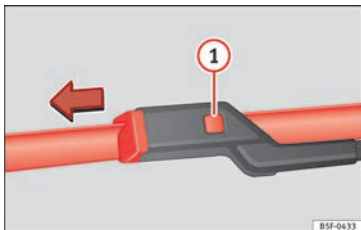

Fig. 79 Changing the windscreen wiper blades
- Press and hold release button » Fig. 79 ❶ and pull gently on the wiper blade in the direction of the arrow.